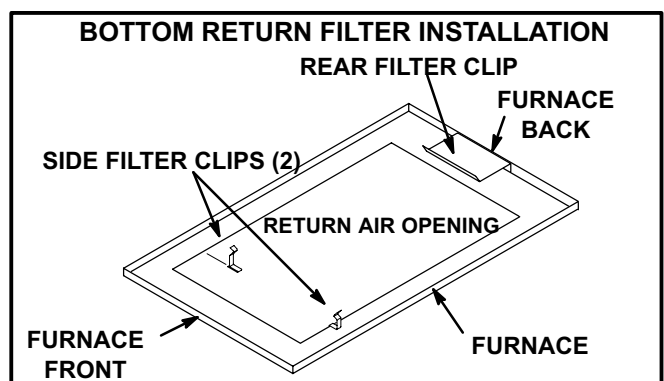

FIGURE 4
- 3- Remove filter by pressing side filter clips and pulling filter up and out. See figure 4.